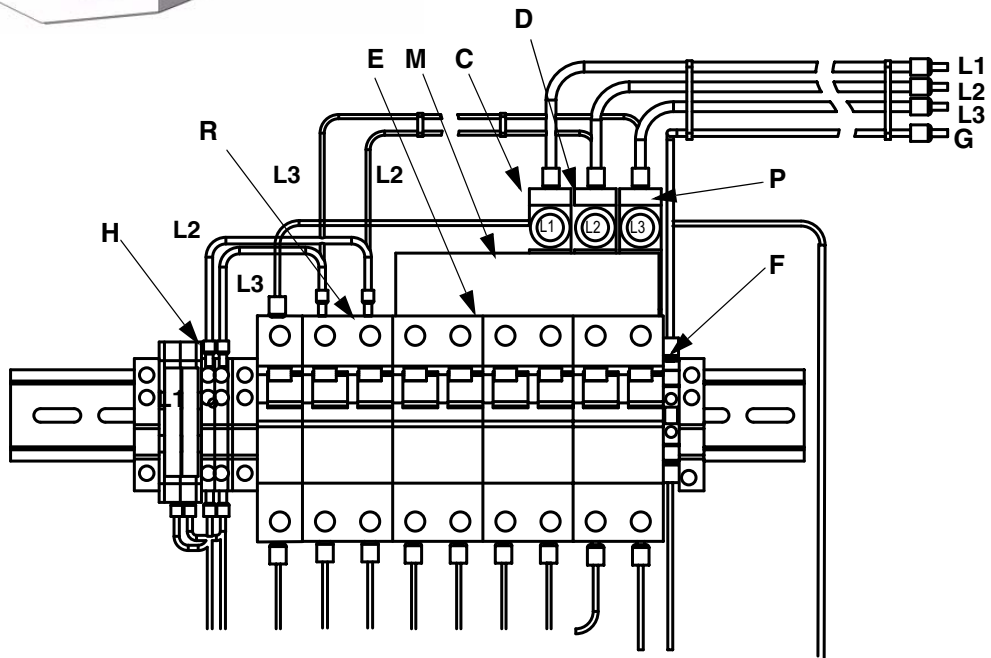

FIG. 4. Kit 248123 for Electric Reactors - Install 3 Phase Hardware and Wire Harness
1. See FIG. 4 on page 5. Plug 3 phase buss bar (M) into circuit breaker module (E).
2. Plug connectors (C, D) retained from disassembly into buss bar (M) as shown. Plug connector (P) included in kit into buss bar.
3. Using a flat blade screw driver, connect wire harness (L1, L2, L3) to connectors (C, D, P). Connect wire harness ground wire (G) to ground terminal (F) at right of circuit breaker module (E).
4. Connect first pair of jumper wires (L2, L3) to Transformer Primary 20A circuit breaker (R). Connect second pair of jumper wires (L2, L3) to terminal block (H) at left of circuit breaker module (E). See FIG. 4 on page 5.
5. Using 5/32 or 4 mm hex allen wrench, connect wire harness (L1, L2, L3) to disconnect switch (A).
6. Route wire harness ground wire (G) over top of disconnect switch (A) and connect to ground terminal (B).